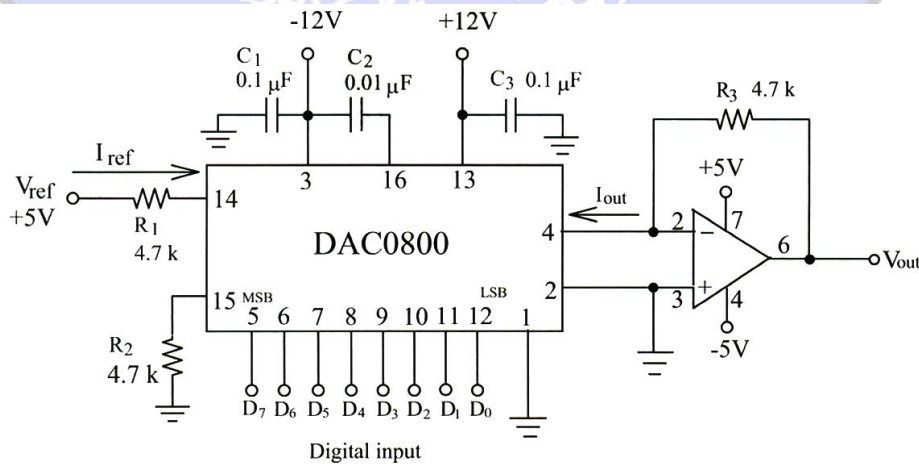
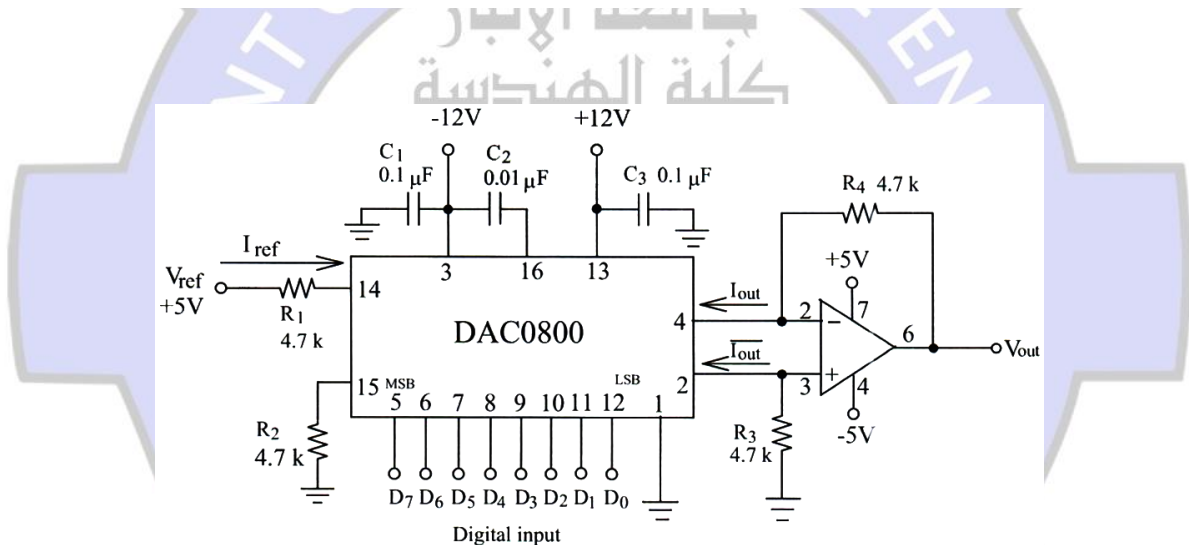

Figure 5-6 DAC0800 unipolar voltage output circuit
Figure 5-7 DAC0800 bipolar voltage output circuit
Figure 5-6 shows the unipolar voltage output DAC using the DAC0800 with  $\mu A741$ . The  $V_{ref(-)}$  pin is grounded through the resistor R2. The positive reference source +5 V is applied to  $V_{ref(+)}$  pin through series resistor R1. Therefore, the reference current  $I_{ref}$  flowing through  $R_i$  is found to be
The bipolar voltage output circuit of DAC0800 is shown in Figure 5-7. The  $\overline{I_{out}}$  pin is connected to the noninverting input of  $\mu A741$  instead of to ground in Figure 5-6. Thus, the  $\mu A741$  output voltage can be evaluated by
- (1) In Figure 5-6, if the digital inputs are 01101010, calculate the output voltage by the weight of bit.
- (2) From a point of view of the step size or the output range, compare the unipolar output with the bipolar output.
- (3) According to the results of Table 5-2, comment on the relationship between  $I_{out}$  and  $\overline{I_{out}}$ .